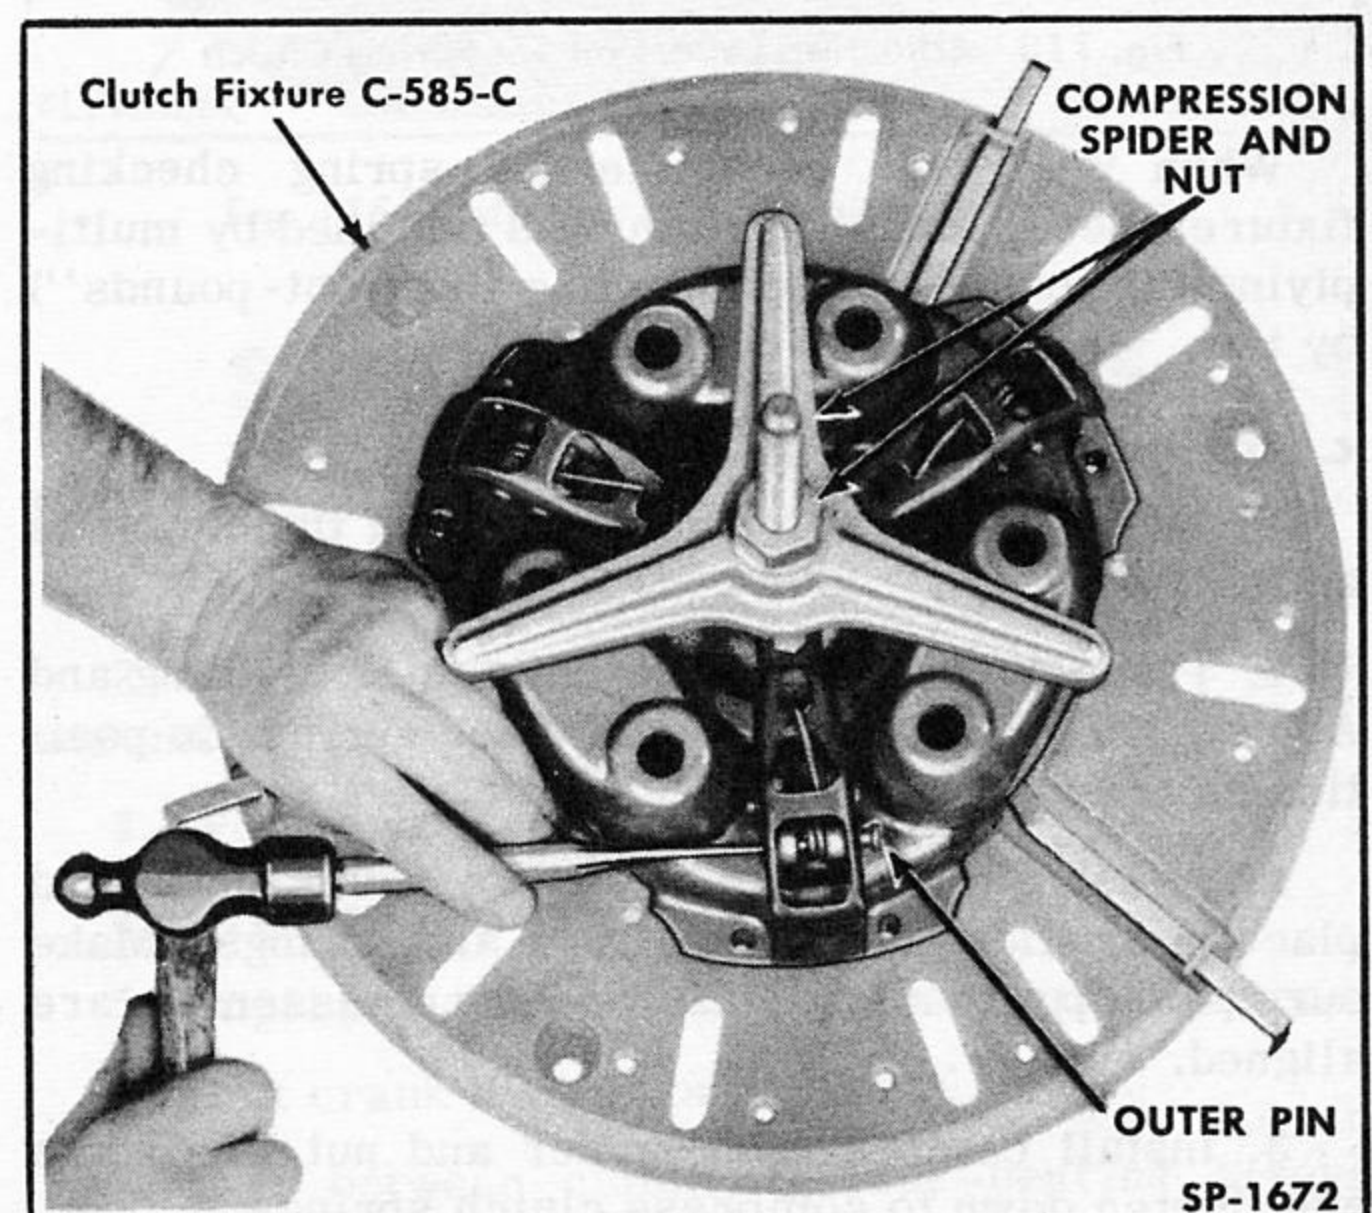

Fig. 112—Disassembling Six Spring Clutch
3. Remove retainer ring from the outer pin on each lever. Drive out the outer pins only. (Fig. 112).